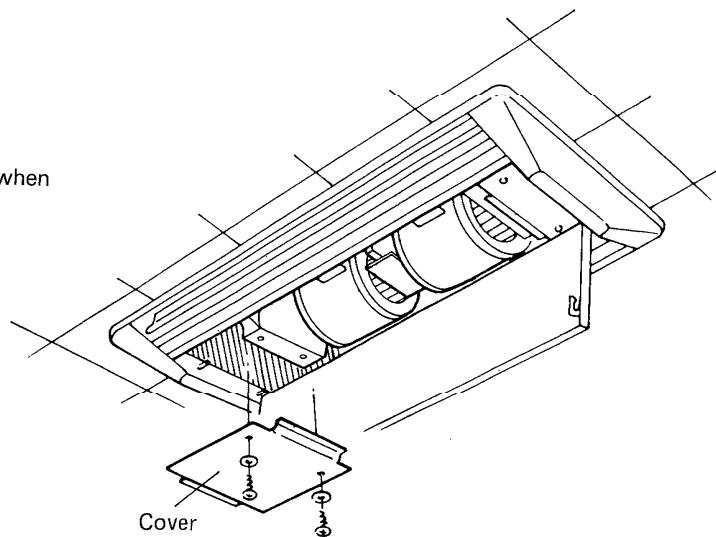

Fig.2
- 3) The electrical component box becomes accessible when the cover (black color) is removed. Fig.2